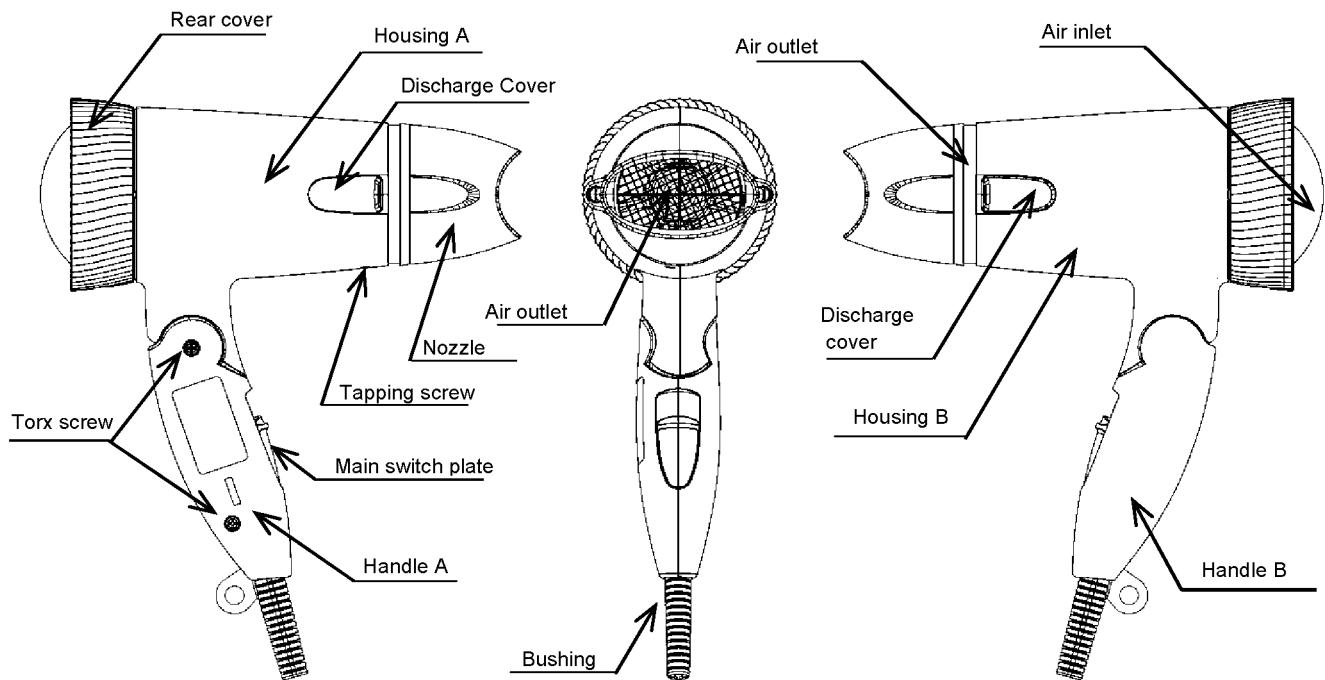

Figure 15
5. Assembly handle A , screws and nozzle as shown figure 15.